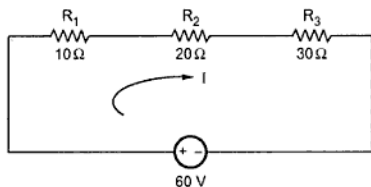

Fig. 1.30
►► **Example 1.14 :** Find the voltage across the three resistances shown in the Fig. 1.30.